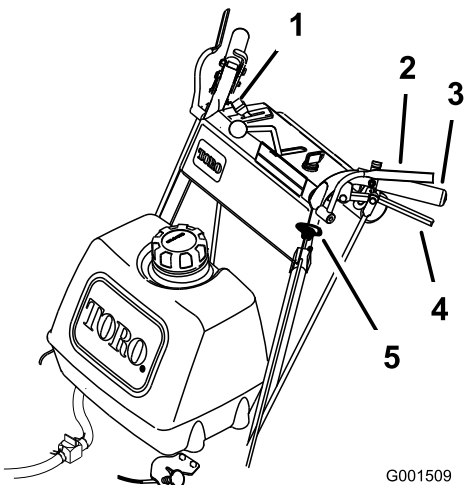

Figure 12
1. To engage blades, squeeze the Operator Presence Control (OPC) levers against handle grips (Figure 12).
1. Push the blade control knob (PTO) down to off (Figure 12).
2. Releasing the Operator Presence Control (OPC) levers will kill the engine and stop the blades (Figure 12) with the blade control lever engaged.